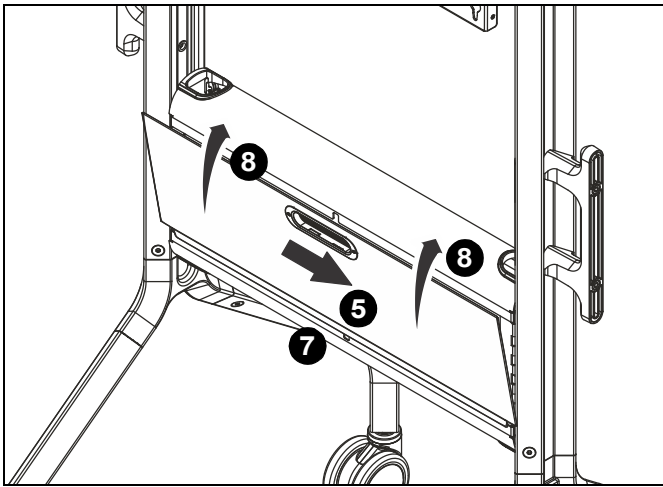

Figure 17
7. Place small cover (R) in position to install by placing lower edge along slot that holds cover. (See Figure 17)
8. Press small cover (R) against cart until it is flush with the cart and is secured in position, (See Figure 17)
9. Slide handle to locked position. (See Figure 17)